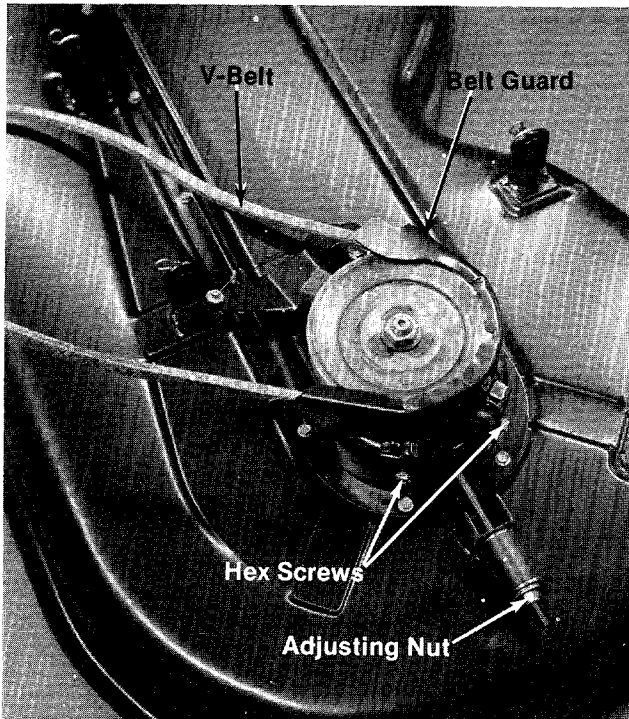

FIGURE 33
1. Remove the two hex screws holding the belt guard to the timing belt cover. (See figure 33.)
1. Remove the belt guard and drive pulley. (See figure 33.)